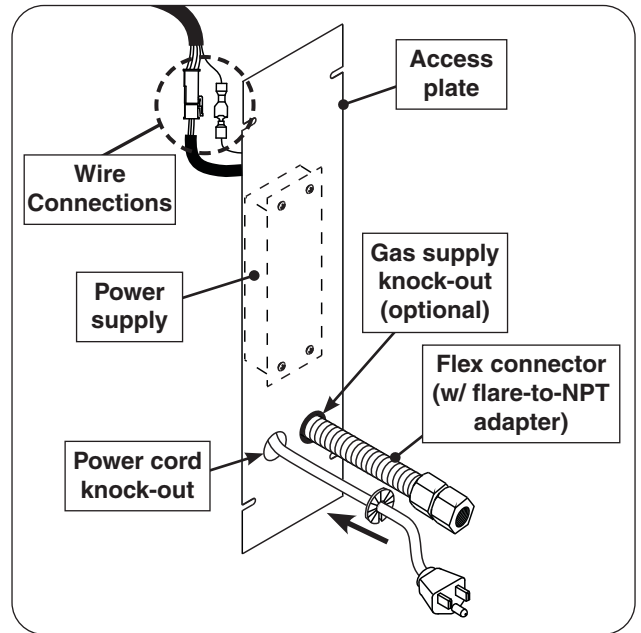

Fig. 17-1 Access plate view & install orientation
A power supply is pre-mounted to the access plate. For ease of installation, disconnect the power supply from the wire harness extension. Locate the wires coming from the inside of the post to the power supply and carefully disconnect (see Fig. 17-1 and 17-2).
4. Install the bushing onto the power cord and slide the bushing up against the access plate knock-out hole and snap into place. See Fig. 17-1.
2. Remove the plastic grommet (attached to the flex connector) and insert it into the newly created opening. Then route the flex connector through the opening. See Fig. 17-1 and 17-2.